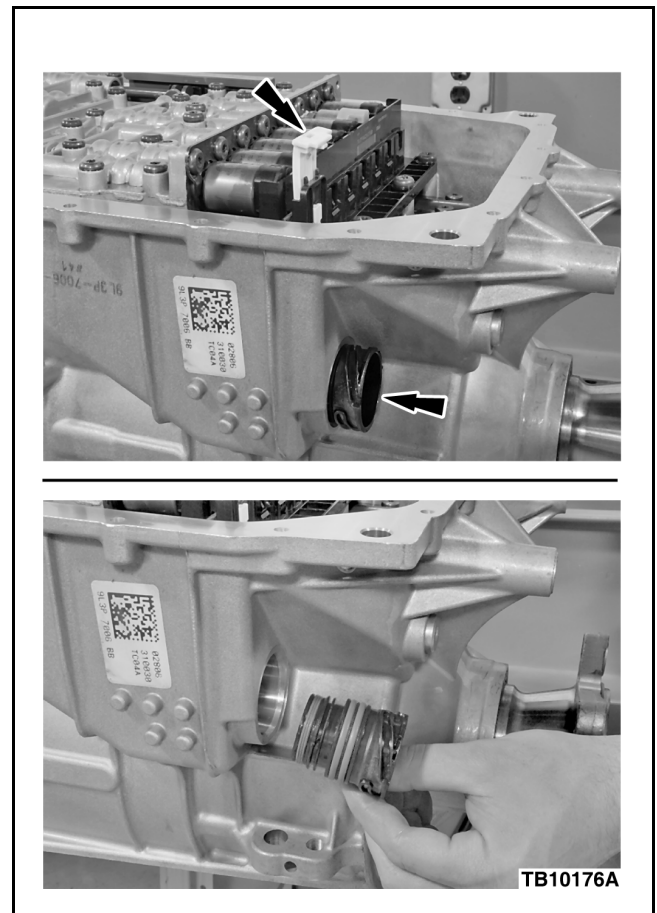

Figure 1 - Article 12-11-14
8. Press the release tab and lift up on the main control bulkhead electrical connector retainer to release the bulkhead electrical connector shell. (Figure 1)